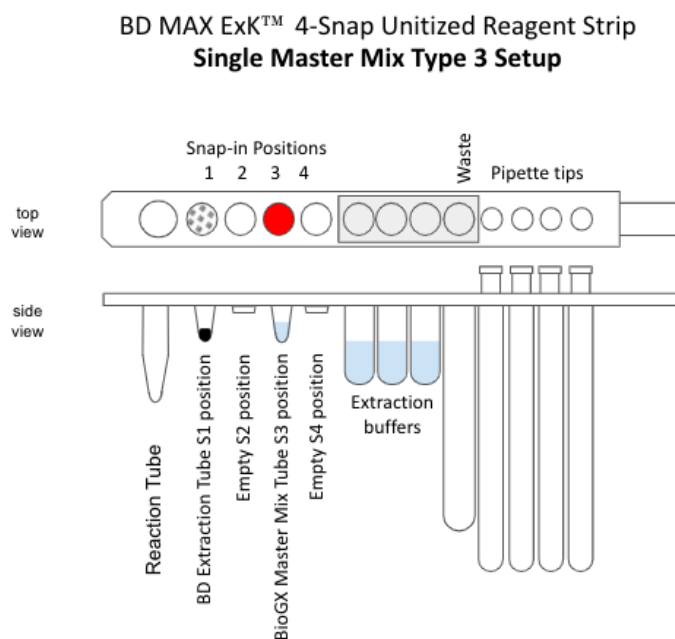

Figure 1. Diagram of BD MAX™ ExK™ TNA-3 4-snap Unitized Reagent Strip.
4. Snap one BD MAX™ Extraction Tube into position 1 (Snap-1) of each Unitized Reagent Strip (Figure 1).
5. Snap one BD MAX™ empty 0.3 mL conical tube into position 3 (Snap-3) of each Unitized Reagent Strip (See Figure 1). Note: each BD MAX™ ExK™ TNA-3 extraction kit contains 24 empty 0.3 mL conical tubes.
9. Transfer **15 µL** of rehydrated Master Mix to the bottom of each empty 0.3 mL conical tube into position 3 (Snap-3) of each Unitized Reagent Strip (Figure 1).